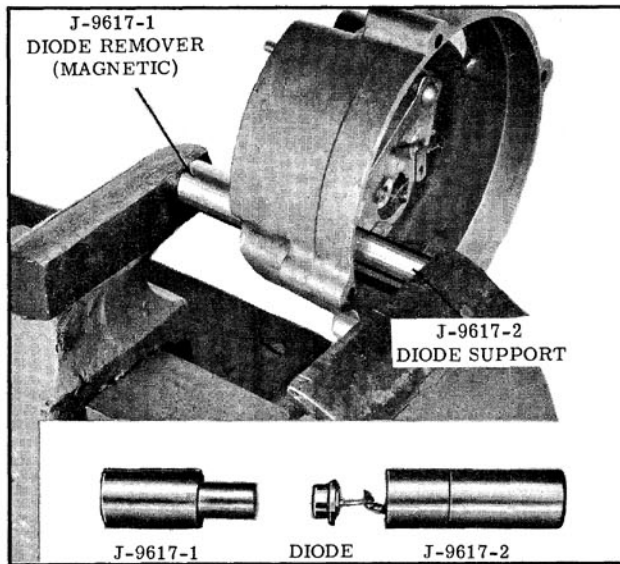

Fig. 13-39 Diode Removal
1. With the Delcotron disassembled and the stator removed, position Tool J-9617-1, J-9617-2 and the slip ring end-frame in a vise as shown in Fig. 13-39.